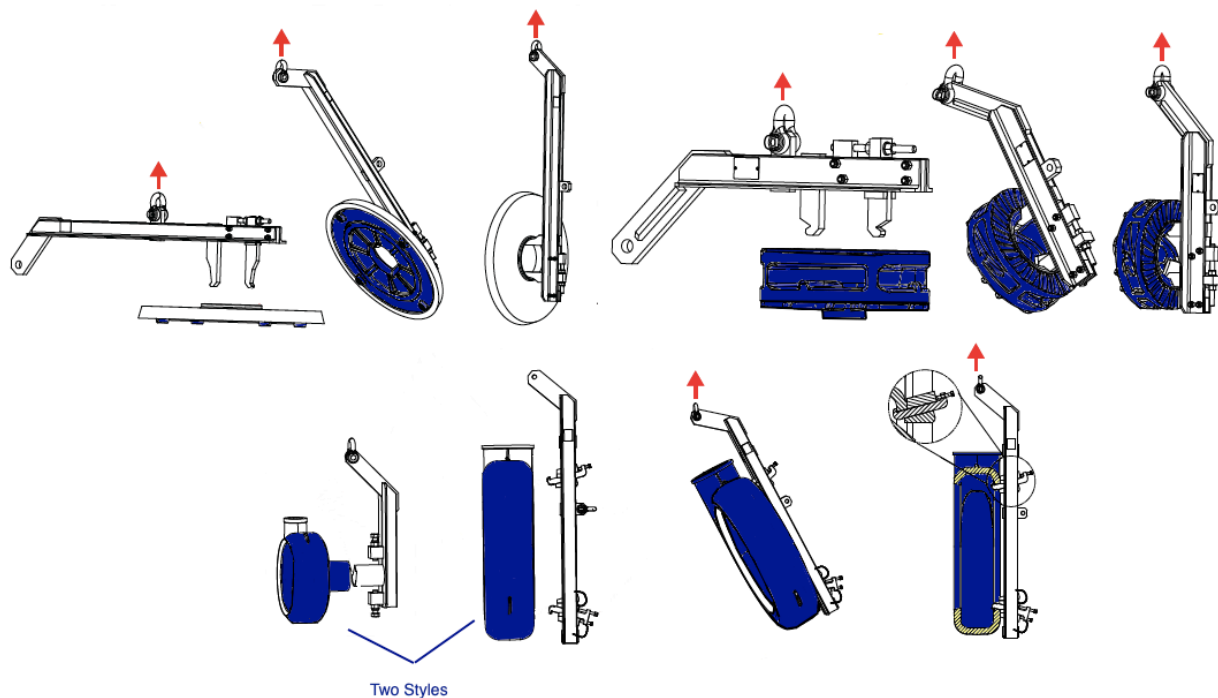

Figure 8-Wet End Assembly Tools
5.3.1 WET END ASSEMBLY TOOLS – Ref Fig 8
Refer to Figs 8 and 10
- b. Suspend a lifting tube - special tool which can be made on site or provided by ICS - from a hoist (refer Fig 8). Stand the frame plate liner insert on its edge, being careful not to damage the mating face, then slide the lifting tube into the bore of the frame plate liner insert. Lift the tube with insert attached and slide the tube over shaft thread. Rotate the frame plate liner insert until the studs line up with the holes in the frame plate, then slide the frame plate liner insert back until it butts up against the frame plate. Ensure that the seal ring and volute liner seal have not been displaced. Fit nuts to studs and leave loose. Then slide lifting tube out.
- c. Ensure that clamp bolts on the right-hand side of the base looking from the wet end are sufficiently tight to hold bearing assembly horizontal, but not lock it. Restrain shaft with wrench, and fit locating nut on shaft thread, as shown in fig 8. The tapered face will locate the frame plate liner insert in its correct radial position. Fully tighten all studs on insert and remove locating nut.